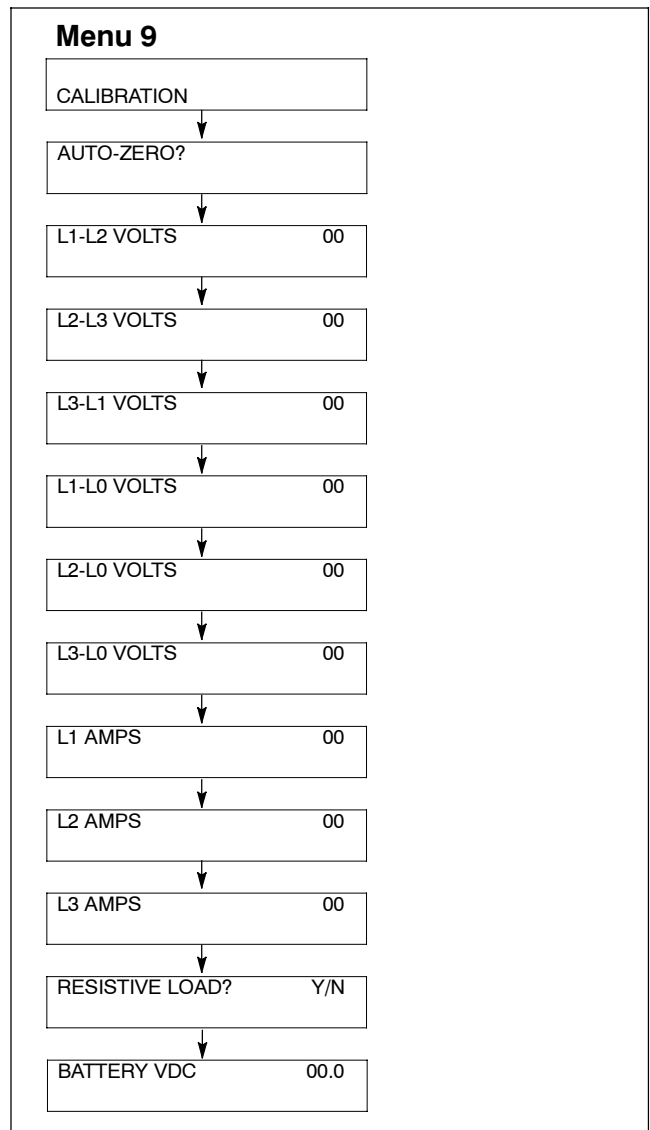

Figure 4-8 Menu 9, Calibration
- c. Go to Menu 9, Calibration and press the down arrow key to Auto-Zero? See Figure 4-8.
- i. Record the voltage on the resistive load bank or connect an RMS voltmeter to each of the remaining voltage connections shown in Figure 4-8. Use the numeric keys to enter the user measured value of each of the corresponding voltage displays. Press the Enter key. Press the down arrow key to access the next display.
- j. Record the amps from the resistive load bank or connect an RMS ammeter to each of the amperage connections shown in Figure 4-8. Use the numeric keys to enter the user measured value of each of the corresponding amp displays. Press the Enter key. Press the down arrow key to access the next display.